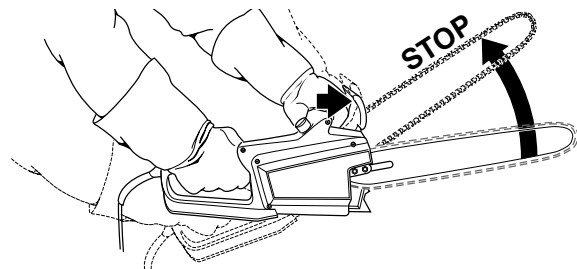

**Figure 9 - Front Hand Guard, Switch Lockout, and Trigger Location**
3. Use both hands to grip saw. Always use left hand to grip front handle and right hand to grip rear handle. Use firm grip. Thumbs and fingers must wrap around saw handles (see Figure 9).
5. When ready to make a cut, press in switch lockout with right thumb and squeeze trigger (see Figure 9). This will turn saw on. Releasing trigger will turn saw off. Make sure saw is running at full speed before starting a cut.